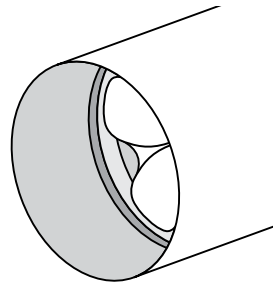

Figure 4
3. Continue pushing the bottle until the bottle block is 1-1/8" from the end of the tube. With a pencil, draw a line to mark the position of the ring (Figure 4).